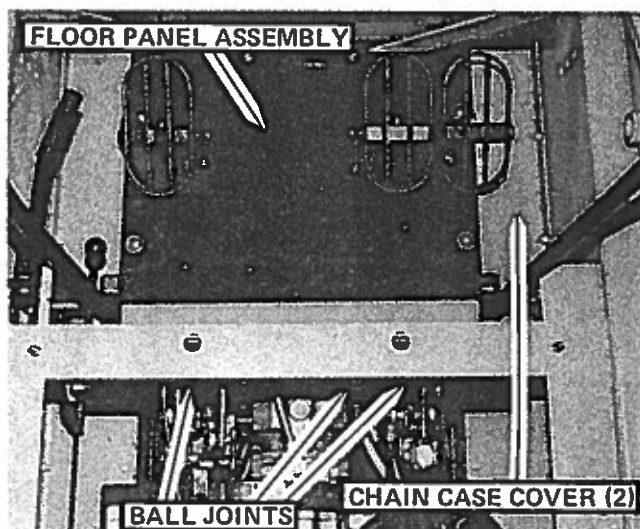

FIGURE 53
2. Remove floor panel bolts and detach the three ball joints, see FIGURE 53.
To gain access to axle nut, the floor panel and the chain case cover, see FIGURE 53, must be removed.
3. Loosen ball joint jam nuts, see FIGURE 53, and detach ball joints.